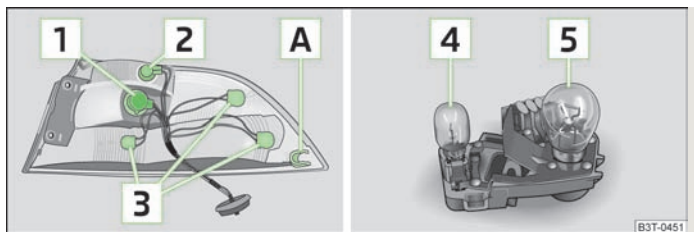

Fig. 193 Outer part of the tail light: Bulbs/Inner part of the tail light: Bulbs
Overview of the location of the bulbs » Fig. 193.
- › To re-install the tail light, first of all guide it with the support **A** » Fig. 193 towards the front onto a bolt on the bodywork.
- › Remove the faulty bulb **4** » Fig. 193 from the holder and insert a new bulb.